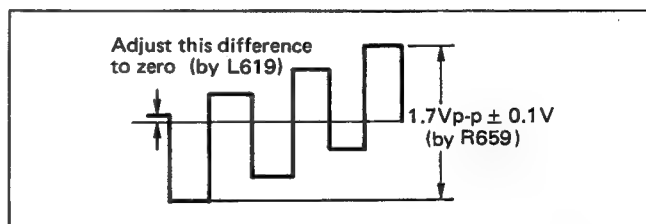

Fig. 37
- 5) Adjust R659 and L619 to achieve waveform shown in Fig. 37.